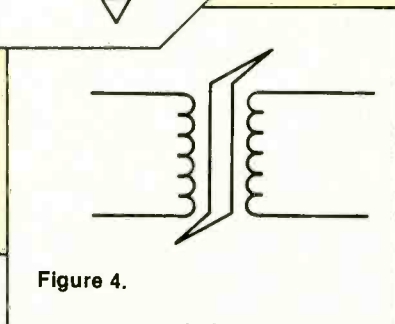

Figure 4.
Figure 4 shows the correct connector wiring.
8. You would expect the transformer shown in Figure 4 to have